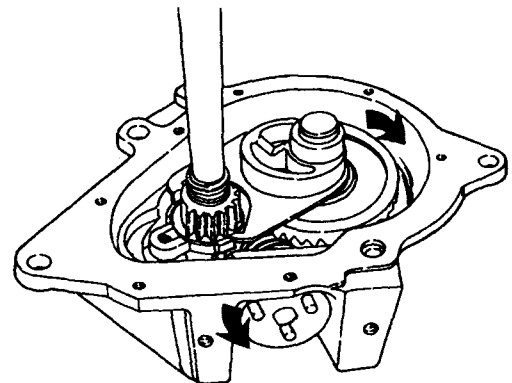

Fig. 27
3. When the motor turns counterclockwise, the main drive gear in the gearcase will turn clockwise, putting the washer into an agitation mode. (Fig. 27)